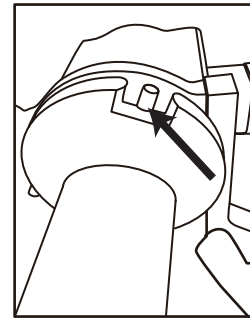
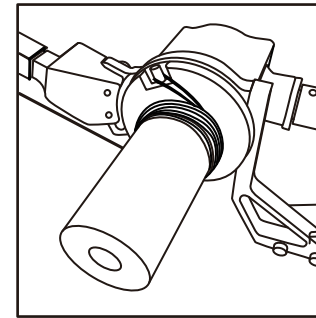

Fig 3
Fig 4
A. When pulling underground or from below, make a loop in the end of the polyline/ mule tape and attach the eye around the Polyline/Mule Tape Pin (10) on the Capstan (1) (Fig 3). This will allow the polyline/mule tape to continuously accumulate onto the Capstan (1) (Fig 4). Switch the 18-Volt drill into REVERSE and payoff like most conventional wire pullers.